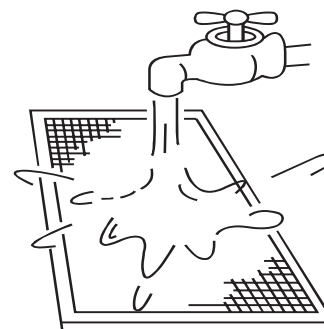

Fig.4-7
- 5) The air-in side should face down when using water. (See Fig.4-7)